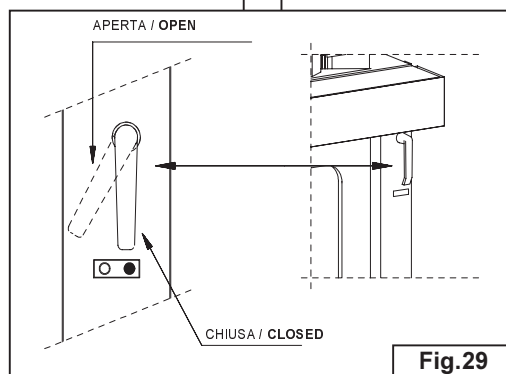

Fig.29
- Aprire **Fig.29** la serranda manuale scarico vapori.
- Open the manual steam vent as shown in **Fig. 29**